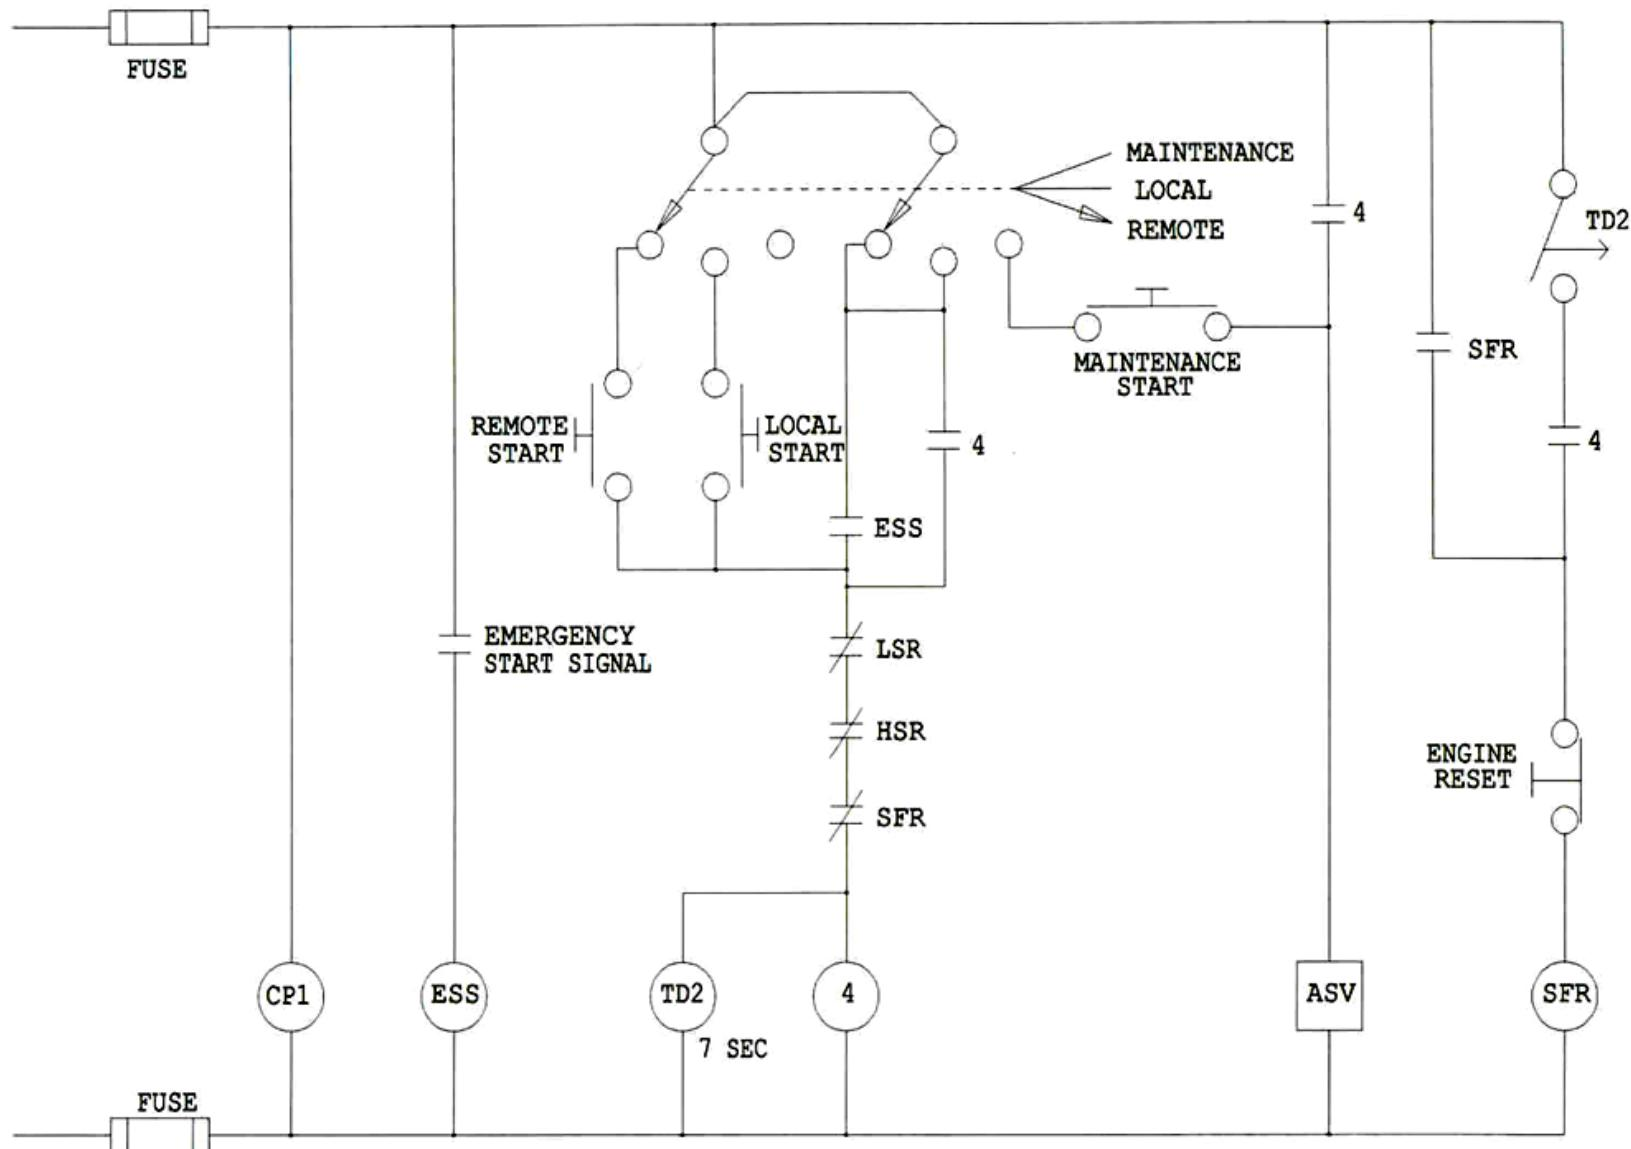

Figure 10-1 Starting Circuitry -- This circuit is often duplicated, for redundancy
A typical EDG Starting Circuit is illustrated in Figures 10-1 to 10-3.
- Figure 10-1 shows the starting portion of the circuitry. This is typically duplicated for redundancy.